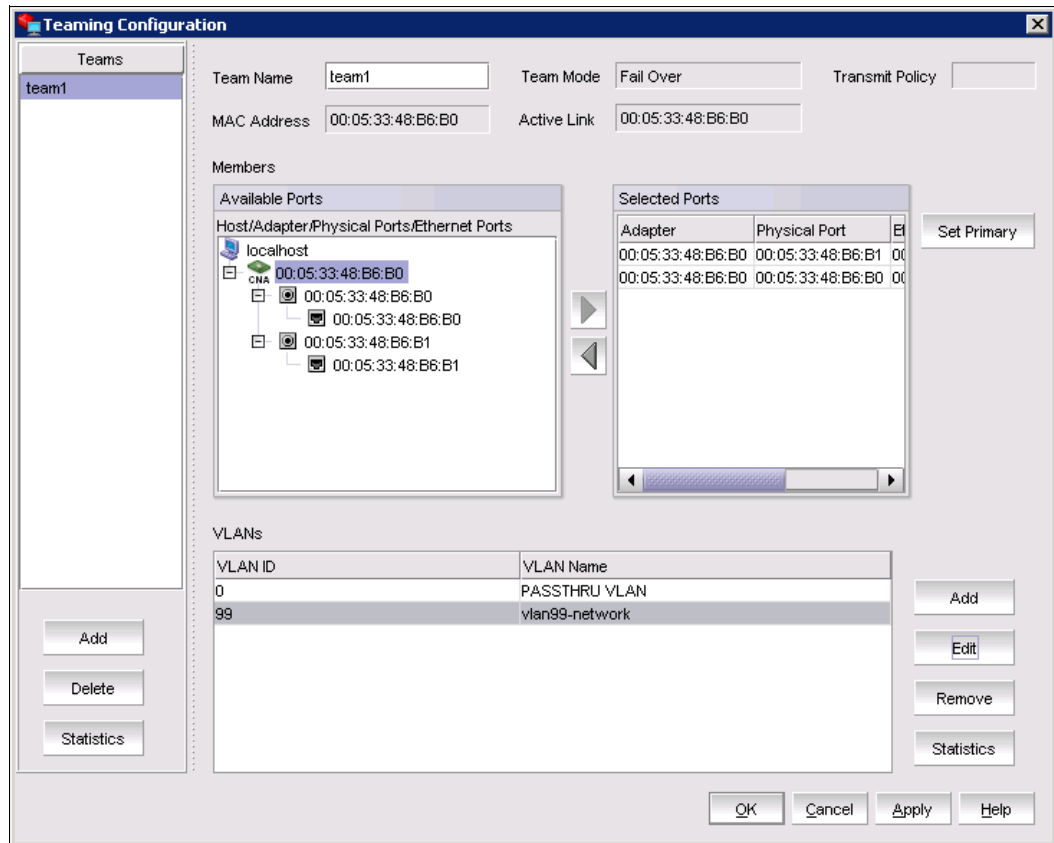

Figure 7-111 VLAN99 added to the VLANs area
g. When you see VLAN 99 in the VLANs area (Figure 7-111), click **OK**.